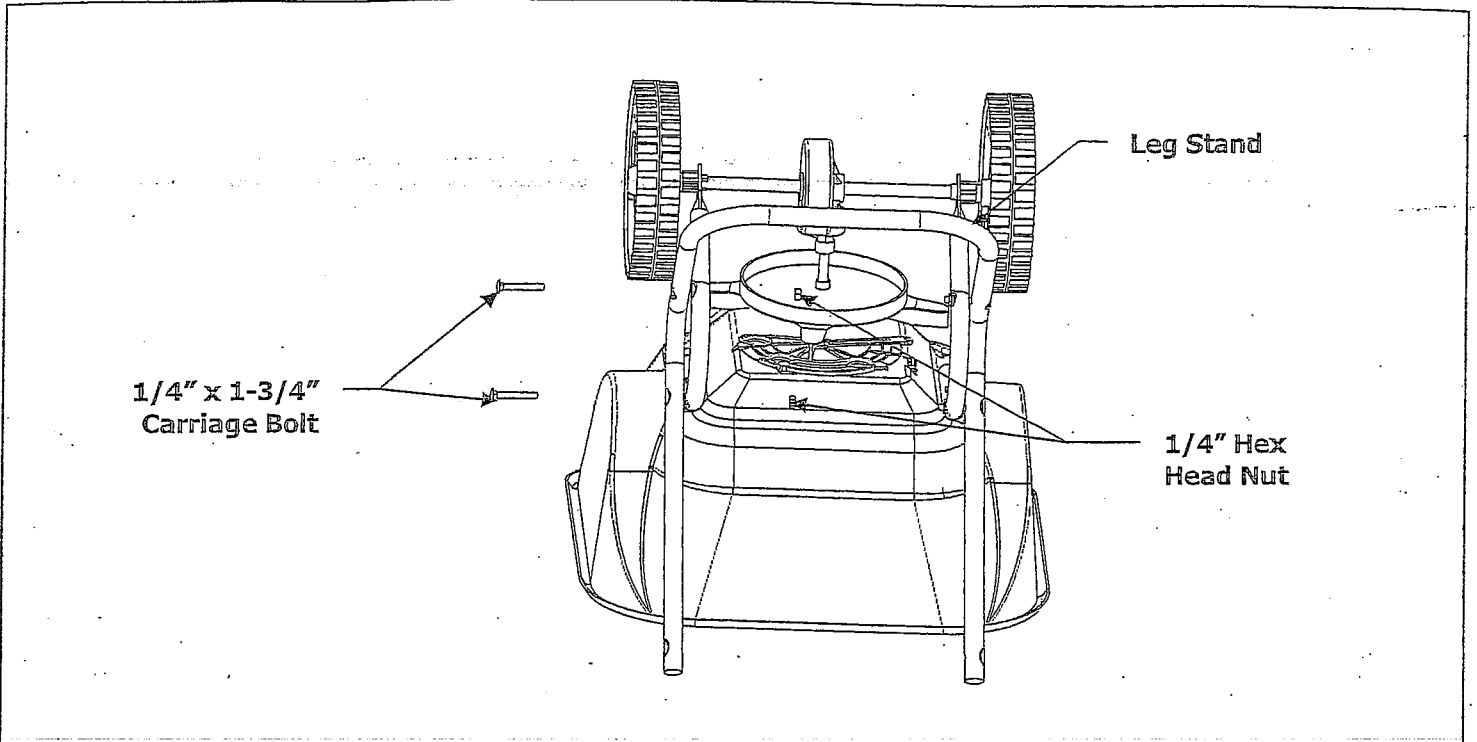

Figure 6
6. Attach the Leg Stand to the Hopper Supports using four $\frac{1}{4}$ " x $1\text{-}\frac{3}{4}$ " Carriage Bolts and four $\frac{1}{4}$ " Hex Head Nuts. See Figure 6.